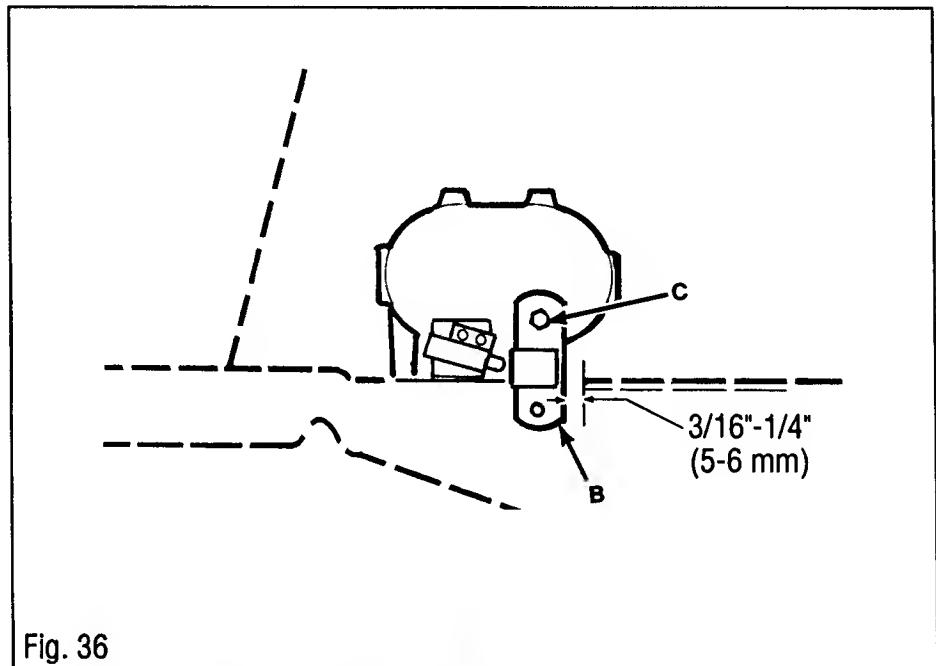

Fig. 36
2. Turn hex nuts (C, Fig. 36) holding brake lever to left-hand side of transmission to remove any play from the brake system.
3. Have an assistant push firmly on brake pedal. Adjust until a gap of $3/16"$ (5 mm) to $1/4"$ (6 mm) exists between front edge of brake lever (B) and forward edge of slot in frame the brake lever goes down through.